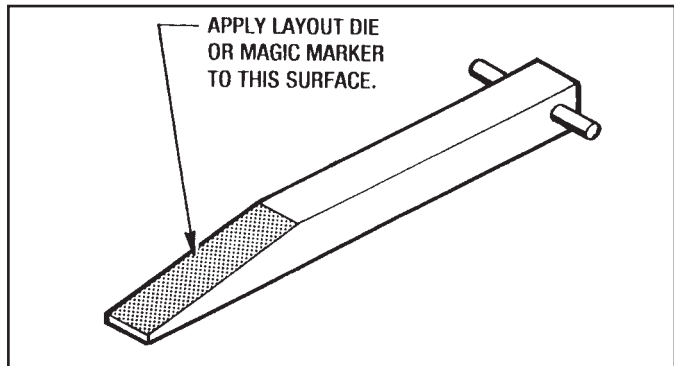

Figure 9.11 - Gap Tool
3. Apply machinists fast drying layout die or (use a black magic marker) to the sloping surface of the Gap Tool as shown in Figure 9.11.